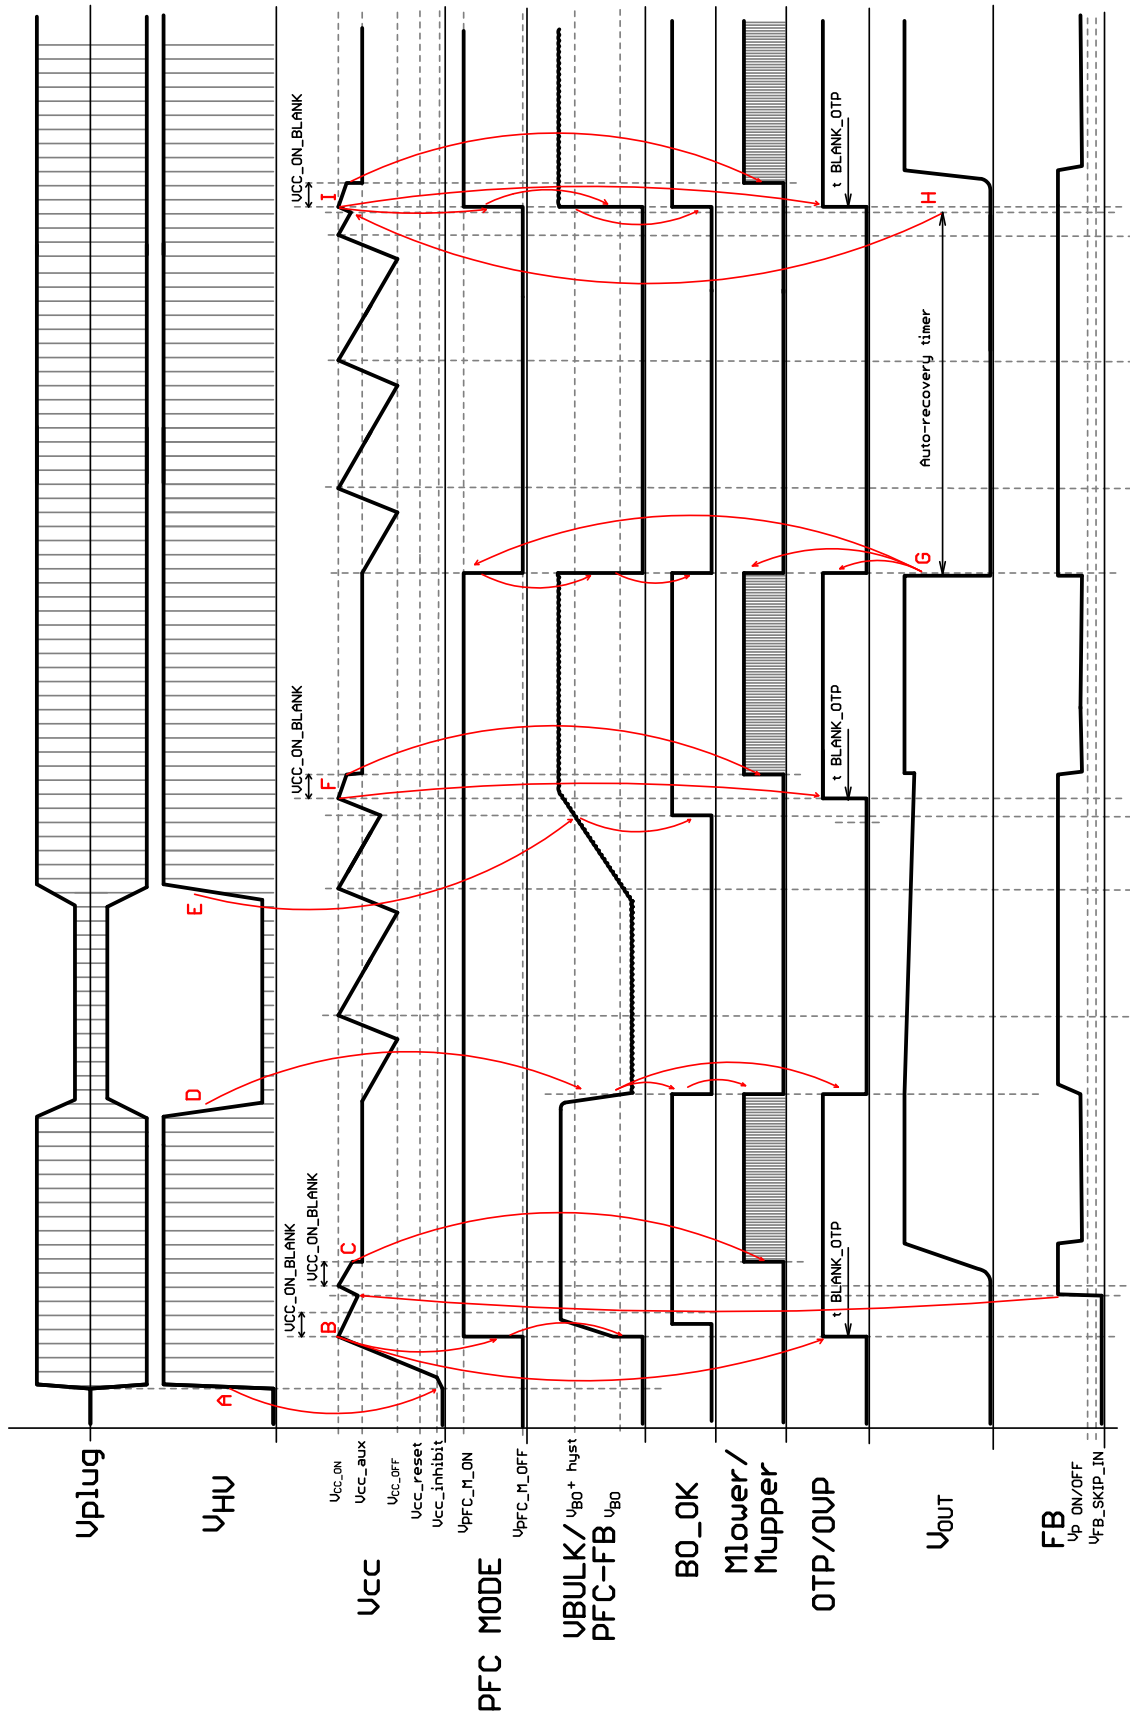

Figure 24. Application Start, Brown-out Off and Restart, Output Short Fault with Auto-recovery Restart
**2. Application start, Brown-out off and restart, output short fault with auto-recovery restart – Figure 24**